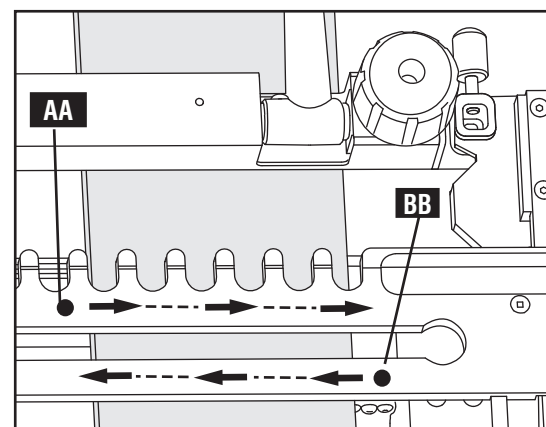

Fig. H17
5. As you make the cut, guide the router from left to right along the back side (AA) Fig. H17 of the slot. Then, guide it along the front side (BB) of the slot from right to left. After removing the bulk of the material with a straight bit in this manner, make the final cut with the dovetail bit the same way.